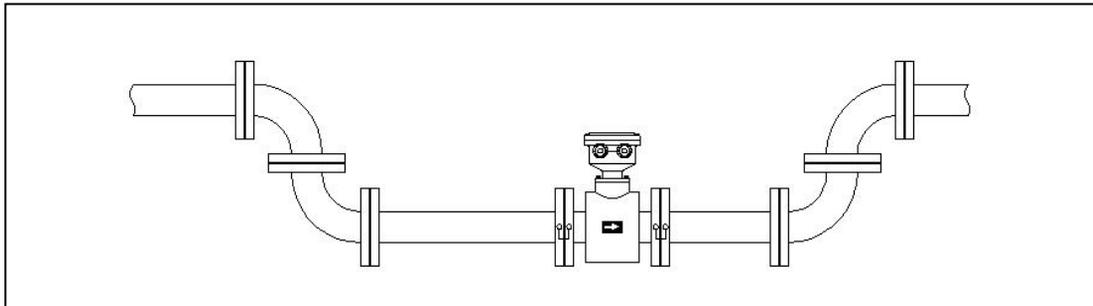

Figure 4.2.1 Anti-negative pressure installation.
1) In order to prevent negative pressure, the elevation of the flowmeter should be slightly lower than that of the pipe, or a certain back pressure should be guaranteed on the downstream side of the flowmeter. As shown in figure 4.2.1: